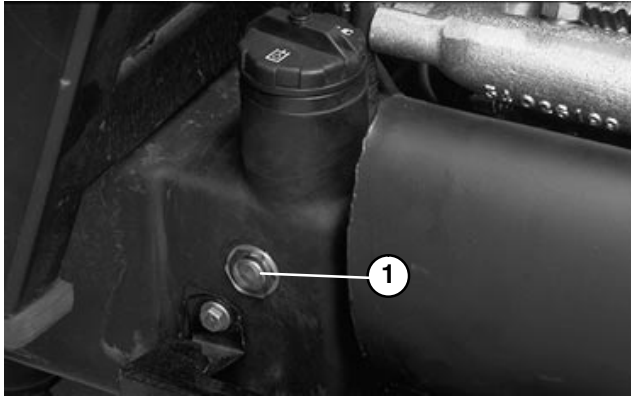

Figure 35
5. With wing decks raised, center deck down and oil warm, look into sight gauge (Fig. 35). If hydraulic oil is not visible, add enough oil to raise level to middle (maximum) of sight gauge. To prevent over filling, do not fill if oil is cold. **DO NOT OVER FILL.**